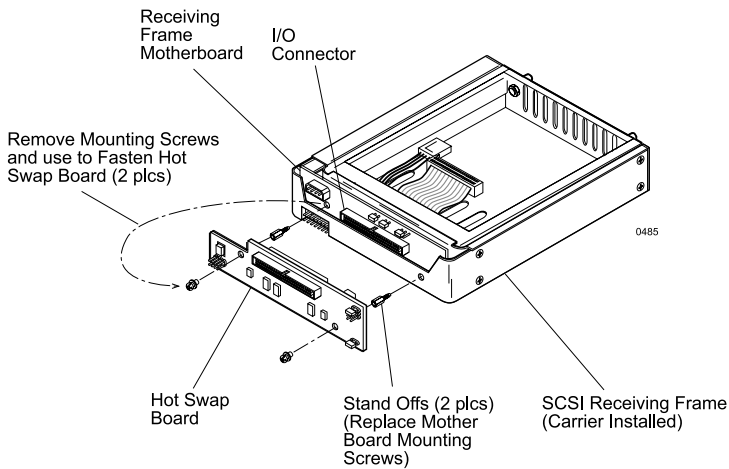

Figure B-1: Attaching the Hot Swap Board
1. Remove the two (2) Phillips head machine screws from the receiving frame motherboard and set the screws aside (Figure B-1).